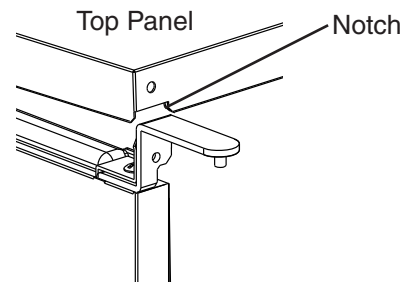

Fig. 7
- e) Rotate the top panel 180° from its previous position. This brings the notch that was previously in the right rear to the left front. See Fig. 7. Hook the rear part of the panel on the body, then secure the front with the 2 screws removed in step 6.